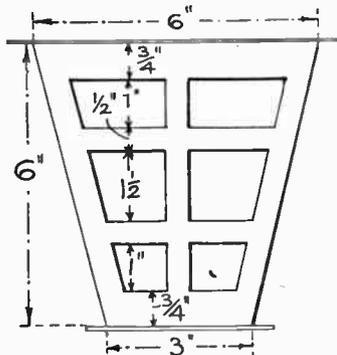
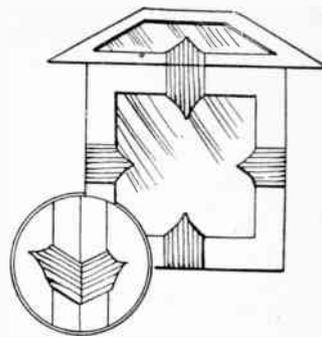
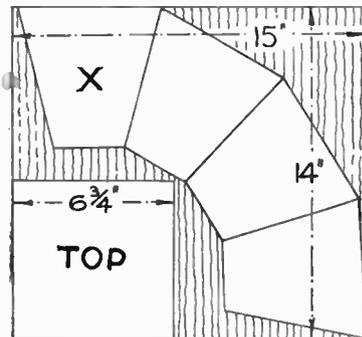

Fig. 6
Fig. 5
Fig. 7
At Fig. 5 we show how the lantern will look when built up and glued together, and with the shaped top attached. To hide the extreme plainness of the lantern, the sides may be covered all over with thin coloured paper, open parts as well, so that the light inside will be nicely diffused. The shaped and shaded pieces shown in Fig. 5 are of gold or silver gummed paper, or a stiffer paper of some contrasting colour may be quite satisfactory. The small circled diagram shows how these latter additions may be glued or pasted round the angle of the two sides.
For our second lantern, that shown at (B) in Fig. 1 we have adapted a rather different shape and one with more character in the cut-out openings in the sides. Looking at Fig. 6 we see the outline design of one of the sides, and all measurements are here again included to complete the draughting out on to a
Having got the one side done as a template, lay it on a sheet of card measuring 15ins. by 14ins. in the position shown as (X) in Fig. 7. Go all round the outline, and the outline of each opening, with a pencil, then shift the template to one side so that two long sides meet, and repeat the process of marking round the outlines. Carry on the process until four distinct outlines result, just as seen in Fig. 7, only here the interior work is not shown. Gluing tabs may be included and drawn on, if desired, in a similar manner to our previous lantern for fixing the top and floor.
The top of the lantern being flat is just a plain piece measuring 6 3/4ins. square, and this can be got from the waste card as shown in Fig. 7. Proceed to do all the cutting both of the complete outline and the interior openings of all four sides. Next, score lightly with knife or razor blade the lines dividing each panel, and then bend up carefully and glue each angle with strips to strengthen these parts where they have been cut partly through. Now cut the top square and also a 4in. square of card for the floor, see Fig. 6. These two pieces are attached by separate gluing strips glued to the faces of the lantern and along
The magician exhibits what appears to be a ring threaded on a black boot lace. A cotton reel is then slipped over the lace as shown in Fig. 7. It would seem that the ring prevents the removal of the reel if the two free ends of the lace are held by a friend. Yet with a light tug, off
Here is the secret. First thread the lace fairly as at Fig. 5. Then tie a piece of black cotton lightly round at point (P) just above the ring. Now thread end (B) back through the ring, as in Fig. 6. If a black lace and black cotton have been used, it is very difficult, on casual showing, to detect what has really been
The photograph shows the appearance of the finished model (less, of course, the shade), whilst Fig. 1 shows the general assembly. The part 11½ ins. long, marked (A) in Fig. 1, is cut from one solid piece. The first shaping of this piece is shown in Fig. 5. Part (B) (of Fig. 1) is just a 4 in. square of ¾ in. wood. Part (C) (of Fig. 1) is further detailed in Fig. 4, and consists of a curved cross-shaped piece of ¾ in. wood (not ply). Lastly, part (D) (of Fig. 1) consists of the parts shown in Fig. 3 these parts forming an X-shaped foot.
All the parts are screwed together, and throughout the column runs a hole to take the flex. Making this hole is the only tricky part of the job. One could start off with a block of wood 3½ ins. square and 11½ ins. long, as in Fig. 5, and merely bore a hole right through, working from both ends. This is perfectly pos-
sible, and advanced workers with a good kit of tools will probably prefer this direct method. It is difficult, however, to prevent the drill from 'wandering' off the centre, so it may prove better to build up the column from four pieces of wood, 1½ ins. square, with an inner corner bevelled off as shown in Fig. 6, and glue them all together. If well done, it is very difficult to detect the joins in the finished article, provided the four smaller pieces come from the same plank with no marked differences of tone.
Assuming, then, that we have either a solid or a built-up column, we can proceed to shape it up as shown in Fig. 5. The parts are square. Naturally, care is needed in the setting out and the cutting, and really sharp broad chisels are needed. Take care to get all the shoulders square and sharp. Having reached the stage shown in Fig. 5, proceed to the stage shown in Fig. 1. Take care not to damage the sharp edges of the bevelled base.
The lamp holder is of a special type as shown in Fig. 7. It is as well to secure